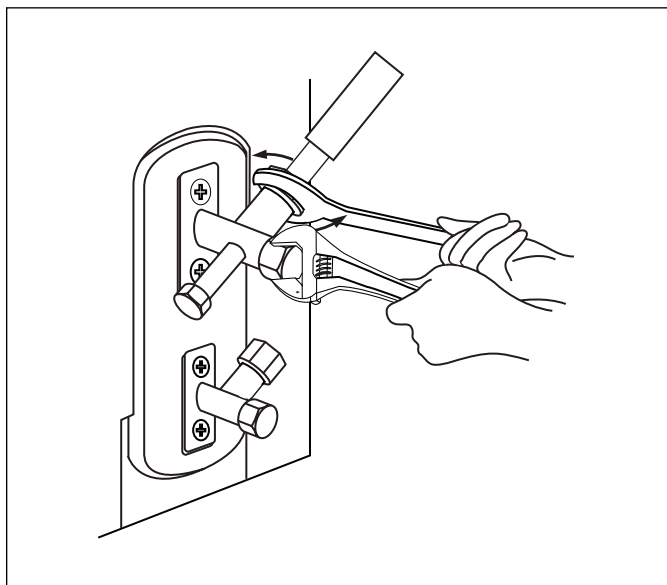

Figure 40
4. Using a wrench, hold the body of the valve. Do not grip the nut that seals the service valve. See Figure 40.